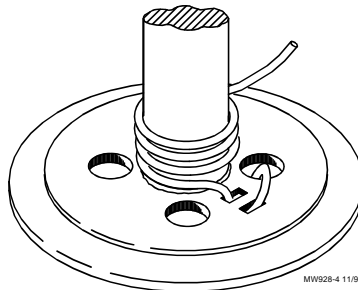

Figure 7. Cable Wrap on Drum
- Attach one end of the 3/16" [4.8 mm] cable to the winch as shown in **Figure 7**. Unroll the cable along the length of the water line.